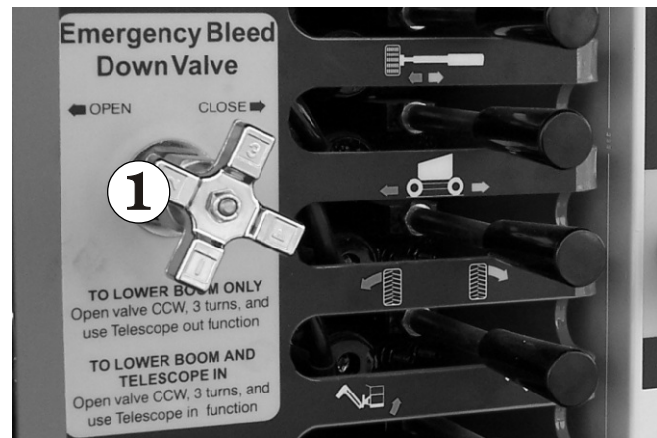

Figure 8.6—Emergency Lowering Knob
1. Slowly turn the knob① (refer to Figure 8.6) to open the bleed down valve. Control the rate of descent by turning the knob.